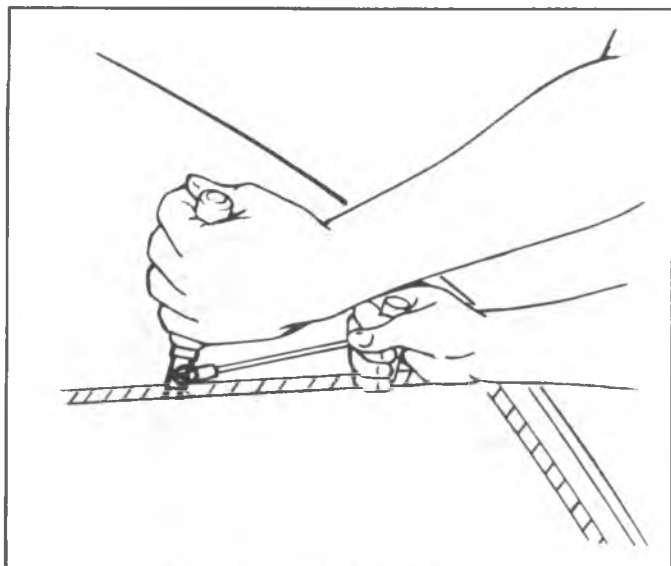

Fig. 2D-101 Knife Removal Method
3. Use a knife as shown in Fig. 2D-101 to cut the adhesive completely around the perimeter of the glass. Knife, J-24402-A or equivalent may be used. With help from an assistant, carefully remove the glass.